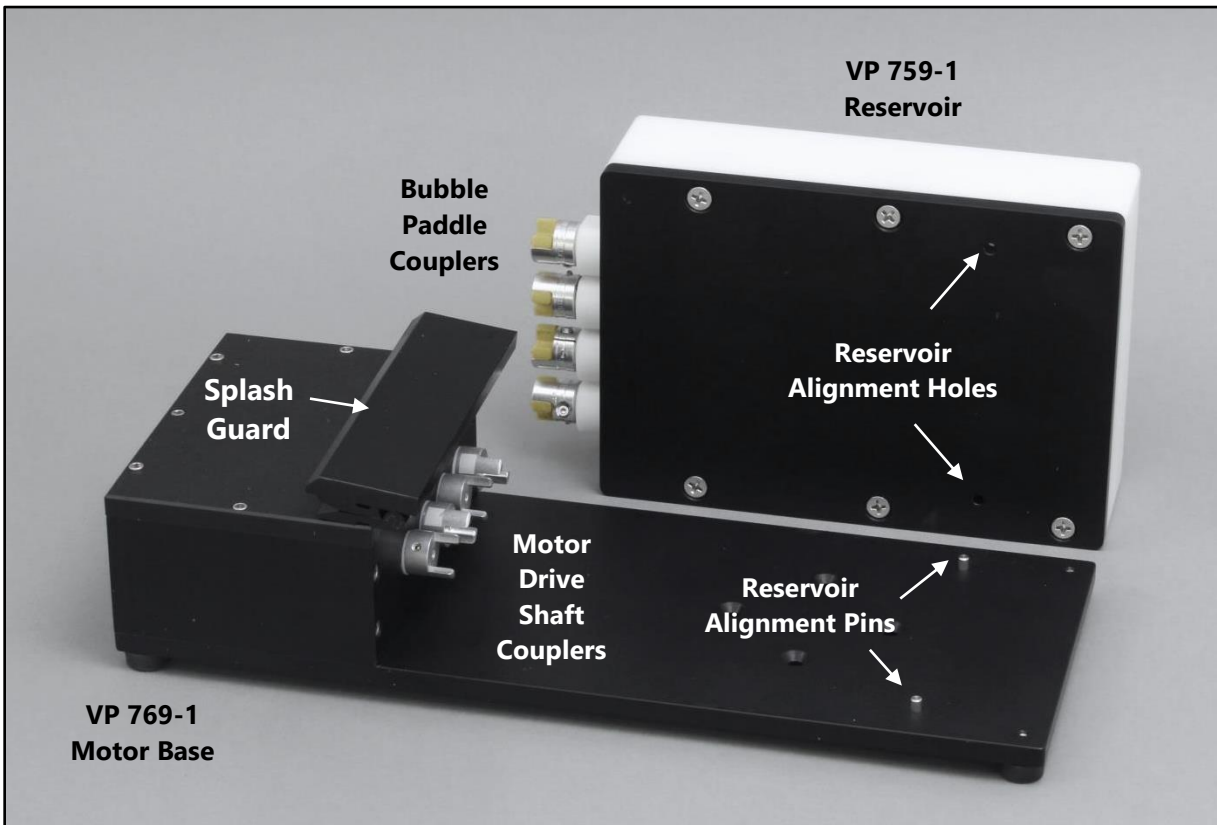
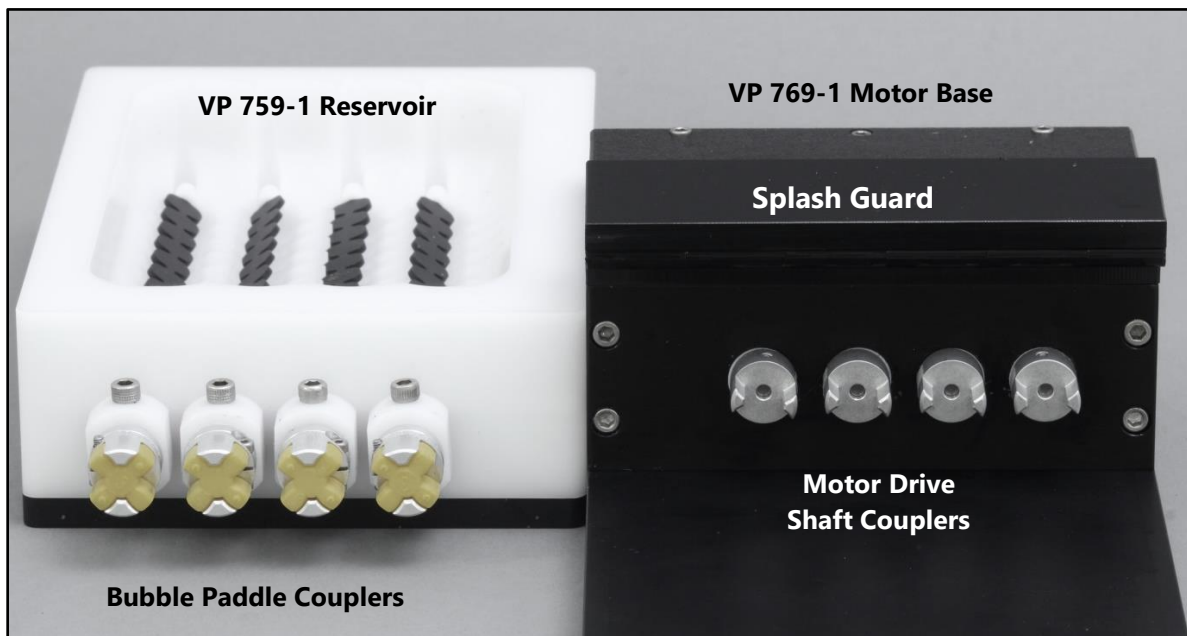

Figure 3. Features of VP 759-1 Direct Drive Bubble Paddle Reservoir and VP 769-1 Motor Base.
Figure 4. Couplers of VP 759-1 Direct Drive Bubble Paddle Reservoir and VP 769-1 Motor Base.
- 2) Turn the motor drive shafts so the two coupler prongs align with the grooves in the Bubble Paddle couplers on the VP 759-1 Reservoir (see Figure 4, page 2). Line up the reservoir with the base and slip the Bubble Paddle couplers onto the motor drive shaft couplers (see Figure 5a, 5b and 5c below). It helps to lift up slightly on the opposite end of the reservoir while pushing forward (see Figure 5c below). Once the couplers are engaged lower the reservoir so that the two alignment pins in the base are in the holes in the underside of the reservoir (see Figure 3, page 2).